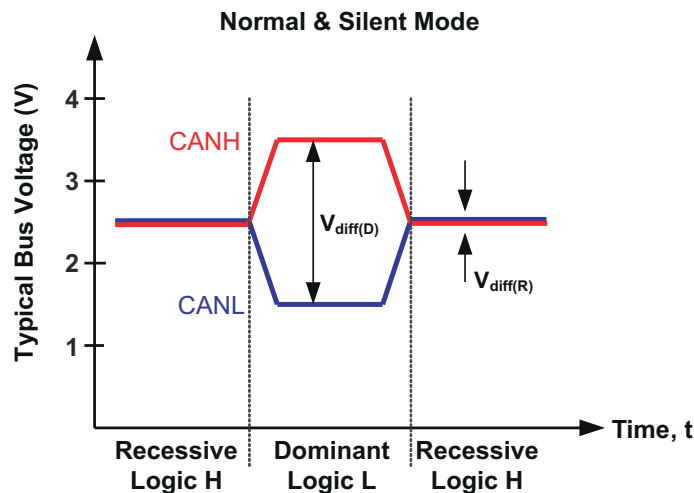
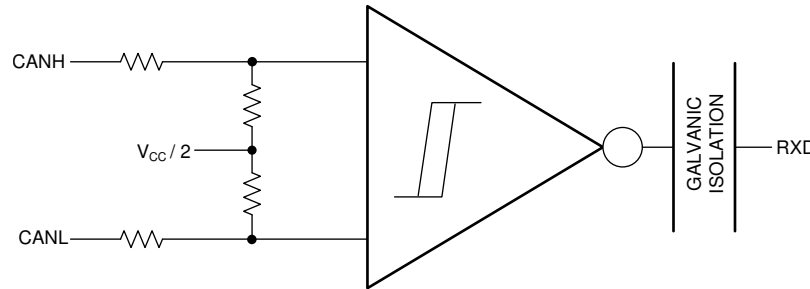

Figure 8-1. Bus States (Physical Bit Representation)
Figure 8-2. Simplified Recessive Common Mode Bias and Receiver
The CAN bus has two states during operation: *dominant* and *recessive*. A dominant bus state, equivalent to logic low, is when the bus is driven differentially by a driver. A recessive bus state is when the bus is biased to a common mode of $V_{CC} / 2$ through the high-resistance internal input resistors of the receiver, equivalent to a logic high. The host microprocessor of the CAN node will use the TXD pin to drive the bus and will receive data from the bus on the RXD pin. See Figure 8-1 and Figure 8-2.
- (1) H = high level, L = low level, Z = common mode (recessive) bias to $V_{CC} / 2$. See Figure 8-1 and Figure 8-2 for bus state and common mode bias information.